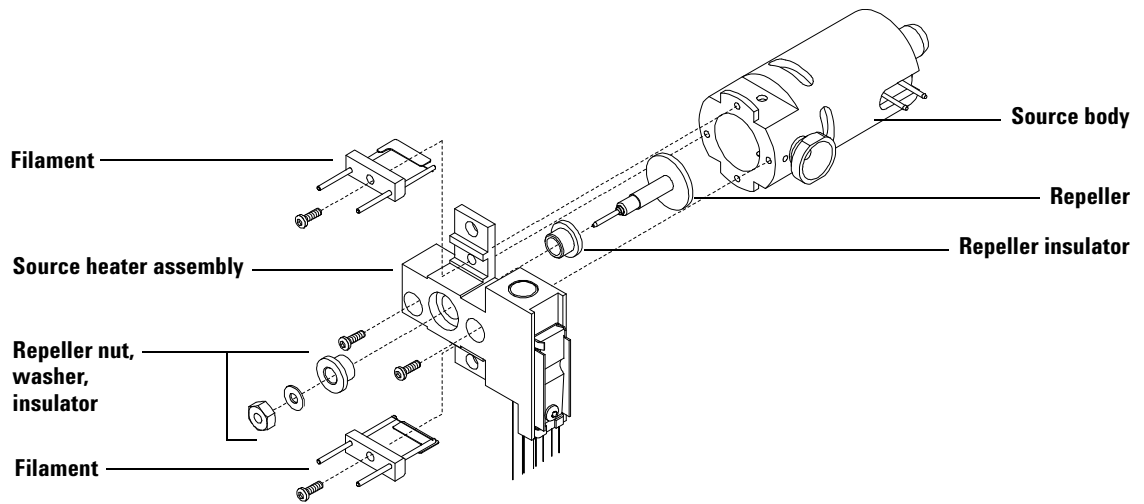

Figure 17 Replacing the heater and sensor
- 5 Remove the repeller assembly (Figure 17). The repeller assembly includes the source heater assembly, repeller, and related parts.
- 2 Reinstall the repeller, repeller insulators, washer, and repeller nut (Figure 17). The resulting assembly is called the repeller assembly.